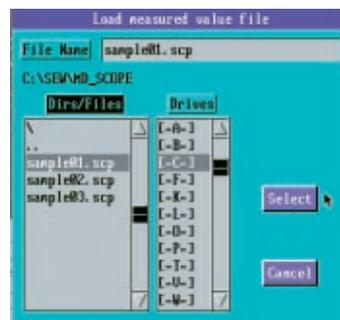

Figure 15: Calculation options window
5) Press the "Calculate" button. The "Calculation options" window will open. Select the "load moment of inertia" option by operating the ON/OFF pushbutton with the mouse (Figure 15), and then press the "Calculate" button to exit the window. The program will now calculate the load moment of inertia reduced to the motor shaft and enter the result in the "Calculated results" field in the bottom part of the commissioning window. At the same time the greyed-out "Parameters..." button will become active.